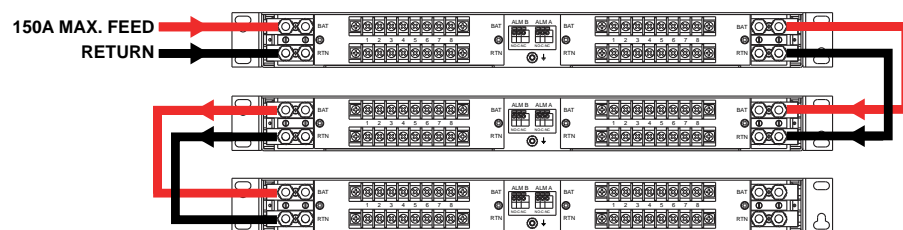

Figure 8. Series Connection of Multiple Panels
Connection is made via two Phoenix Contact spring clamp terminal blocks. ALM-B is for the Form C relay contact of side B and ALM-A is for the Form C relay contact of side A. The terminals, viewed from left to right, are the normally open (NO) common (C) and normally closed (NC) contacts, respectively. See figure 8 below.
The unused side is directly connected to the live input feed and can be used for supplying additional panels. See figure 8 below.